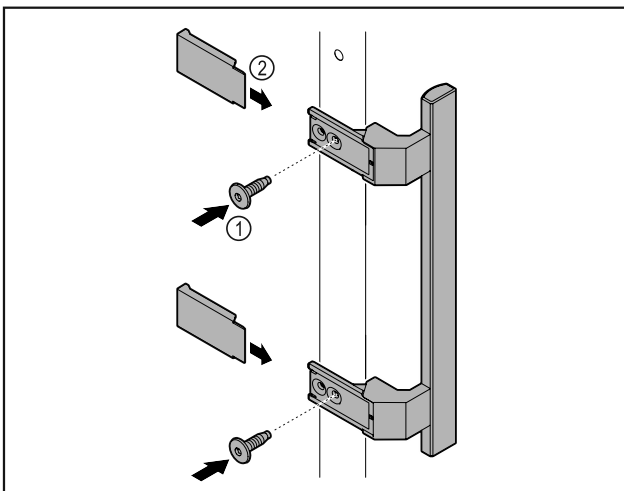

Fig. 7
- Attach handle from accessory kit to the door using supplied screws Fig. 7 (1).
- Put on cover Fig. 7 (2).